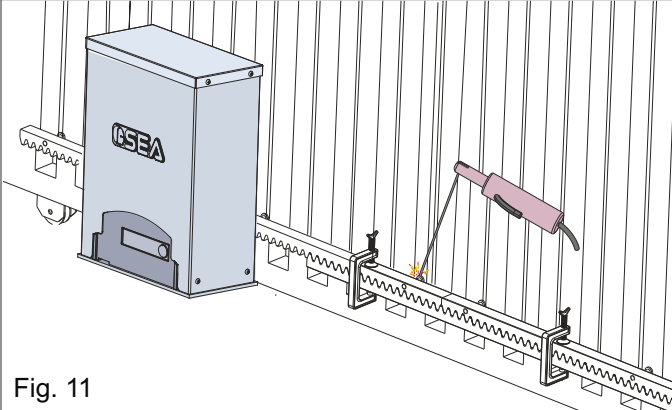

Fig. 11
- 5.4.** Make sure that all the gear rack elements are perfectly aligned and correctly placed (*the teeth must be in phase*). It is suggested to oppose an element to two aligned elements as shown in Fig. 11;